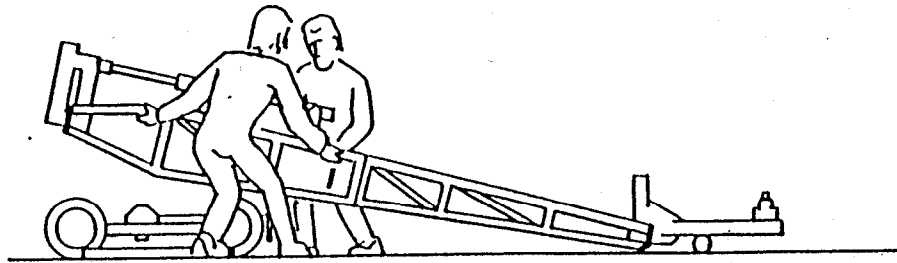

FIGURE 7
3. Take your position (2 persons) as shown in figure 7